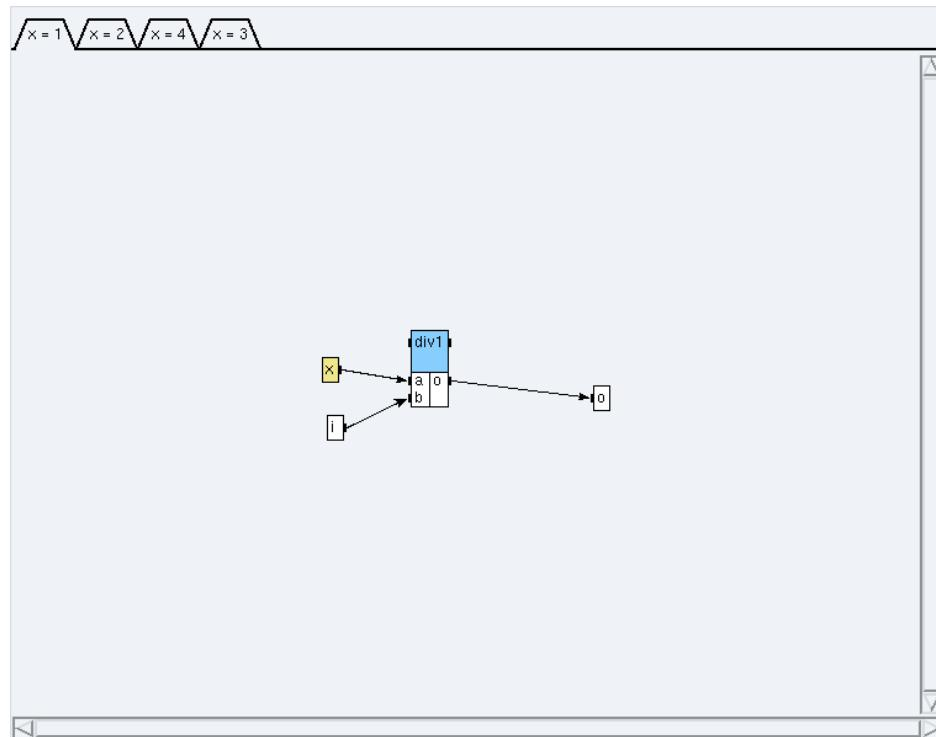

Figure 5.2: Condition $x=1$
- * click on the condition **x=1** (*cf. figure 5.2*) and create a reference `div1<1>` to the definition `int/Arit_div`,